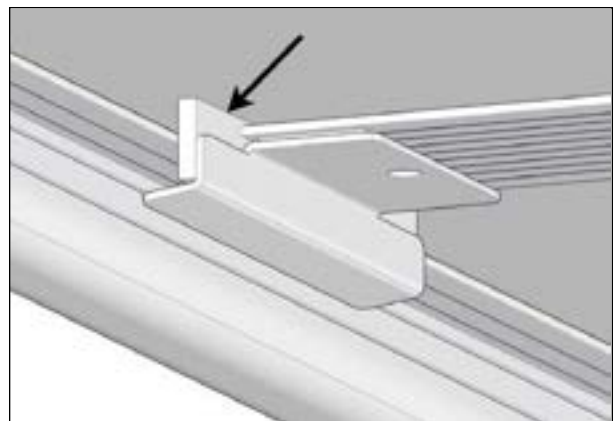

FIGURE 70: FINAL POSITION OF THE WIPER
At the final position of the wiper, the flap must touch the edge of the I-beam see Figure 70.
4. Stick the wiper bracket on the middle of the I-beam by holding it in place and maintaining pressure for at least 60 seconds. This ensures a proper bond to the I-beam. Make sure you install the wiper flap at the edge of the I-beam directly into the gap between the I-beam and the C-channel, see Figure 70.